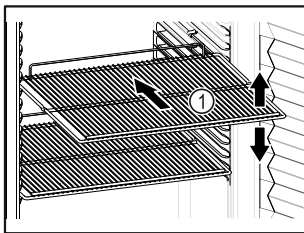

Fig. 48 Example illustration
- ☐ If there are adjustable shelves Fig. 48 (1), position them as required.